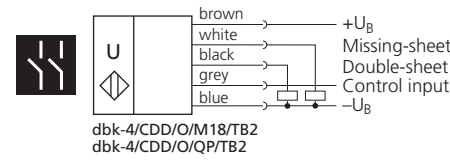

Fig. 4: Terminal assignments
- Connect the 5-core control cable of the receiver as shown in Fig. 4. Connect the control input depending on the chosen working range to -U_B (40 mm) or +U_B (60 mm).